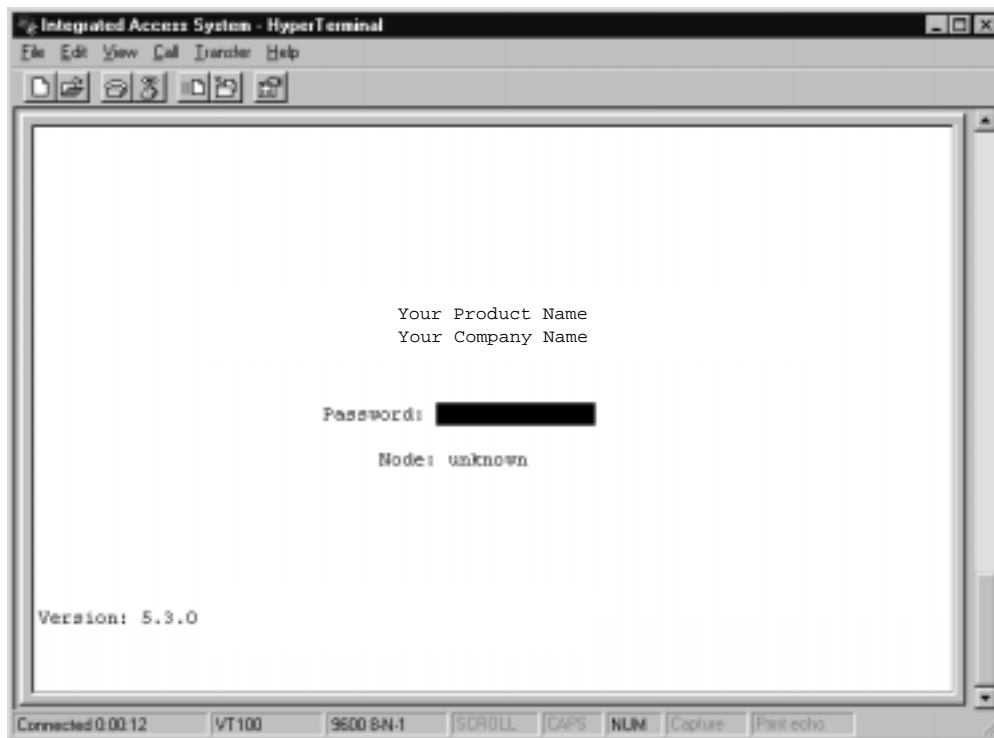

Figure 4-6. Typical Login Screen
The system will display the “Testing and Initializing the System” screen in Figure 4-5 above. When testing and initializing is complete the screen will go blank. Press the <Enter> key. The System Login Screen will display. See Figure 4-6.
1. Press <Enter>. The Login Screen depicted in Figure 4-6 should appear. If not, press <Enter> repeatedly until it does.